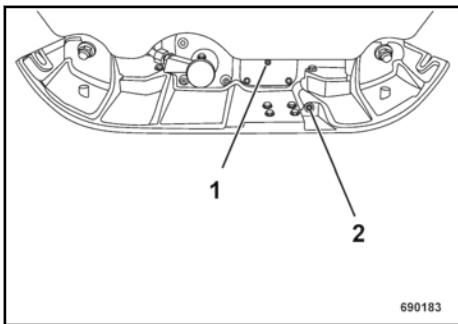

Fig. 48
Unscrew the bleeding screw (1) ↪ Fig. 48.